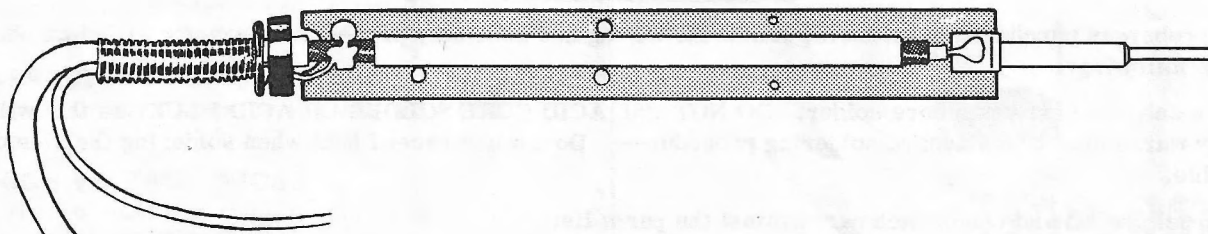
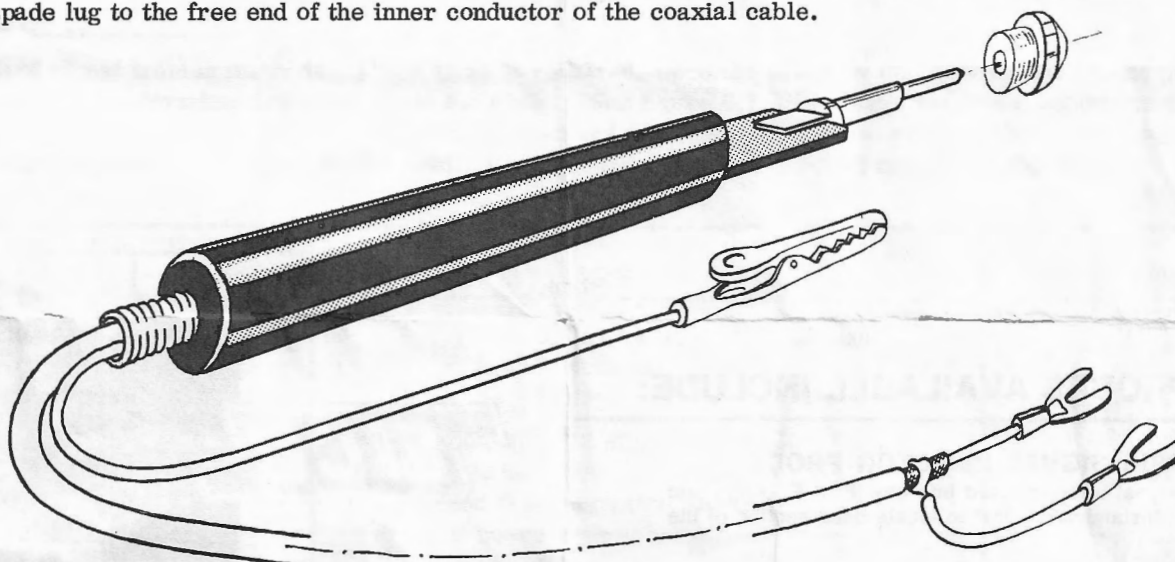

Figure 5.
Figure 6.
Page 20, Fig.5, Step 28: Change color code to (red, red, green, gold)
Page 22, Fig.5, Step 58: Change stock no. to (10606) and description to 2.4K, 2W, 5% (red, yellow, red, gold)
Page 22, Fig.5, Step 59: Change stock no, to (10606) and description to 2.4K, 2W, 5% (red, yellow, red, gold)
Use standard signal tracing methods. If isolation is required, open the probe by unscrewing the plastic nose-piece and pulling the terminal board out from the shell. (See figure 6.) Disconnect the inner conductor from the probe tip. (See figure 5.) Shorten the shielded lead and connect a 47 kilohm resistor between the probe tip and the inner conductor of the shielded lead. Reassemble the terminal board into the probe shell.
4. () Figure 3. Insert the trimmed end of the cable into the spring until a 4-1/2" length of cable protrudes from the edge of the spring which was just soldered. Push the rubber washer over the insulation and the stranded wire, as shown in Figure 5.
5. () Figure 5. Lay the cable assembly on the side of the terminal board with the solder lug. Solder the inner conductor of the cable to the flat shank on the probe tip. Bend the solder lug so that it grips the cable braid and the stranded wire. Solder the braid and the stranded wire to the lug. Cut off excess wire.
6. () Figure 6. Pass the free ends of the coaxial cable and the stranded lead through the probe shell from the threaded end. With a rocking motion, using a minimum of force, push the terminal board into the probe shell so that the spring protrudes out of the rolled-over end.
7. () Figure 6. Pass the plastic nosepiece over the probe tip and screw it into the shell.
8. () Figure 6. Cut 3-1/2" off from the stranded wire. Strip the insulation back 1/4" from the end of the stranded wire. Solder an alligator clip to this end of the stranded wire.
9. () Figure 6. On the free end of the coaxial cable, strip the outer insulation back 3". Cut the braided shield so that it protrudes 3/8" from the outer insulation. Strip the insulation back 1/2" from the end of the inner conductor.
10. () Figure 6. Strip the insulation back 1/2" from both ends of the 3-1/2" piece of stranded wire. Wrap one end around the braid shield of the coaxial cable and solder, being careful not to overheat the cable.
11. () Figure 6. Solder one spade lug to the free end of the 3-1/2" piece of stranded wire and solder a second spade lug to the free end of the inner conductor of the coaxial cable.